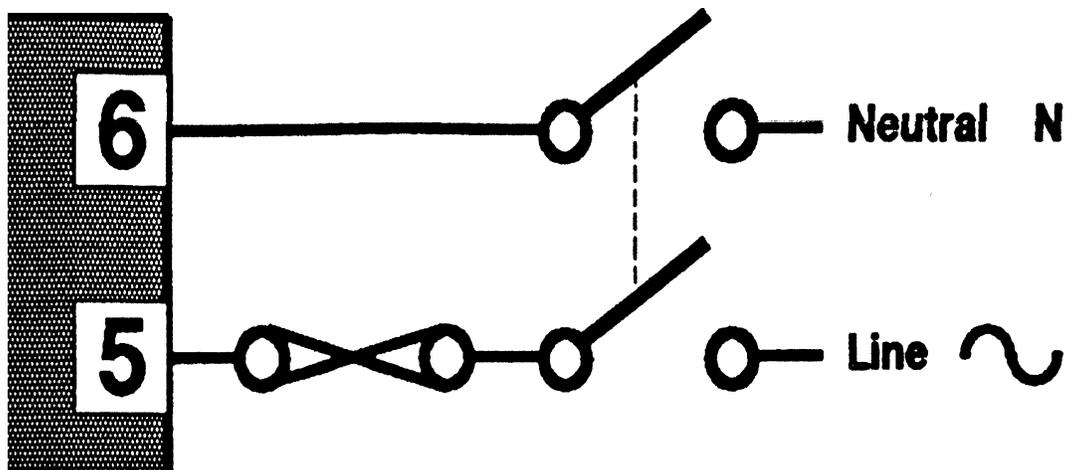

FIGURE 2-2 Mains (Line) Supply Connections
**CAUTION:** This equipment is designed for installation in an enclosure which provides adequate protection against electric shock. Local regulations regarding electrical installation should be rigidly observed. Consideration should be given to prevention of access to the power terminations by unauthorized personnel. Power should be connected via a two-pole isolating switch (preferably situated near the Instrument) and a 1A fuse, as shown in Figure 2-2.